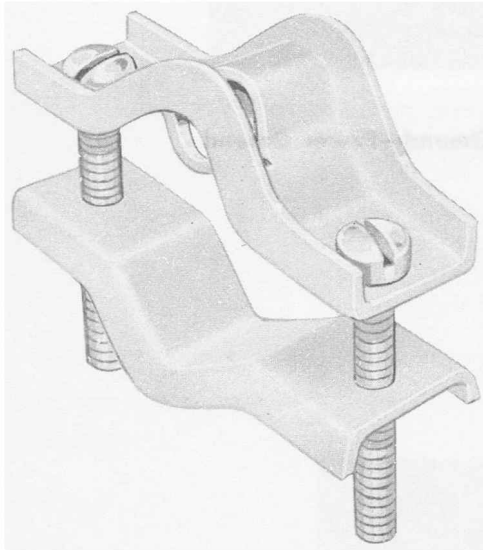

Fig. 20—B Ground Clamp
4.02 The B Ground Clamp, E Connector, and AT-7796X Connector are illustrated in Fig. 20, 21, and 22, respectively.